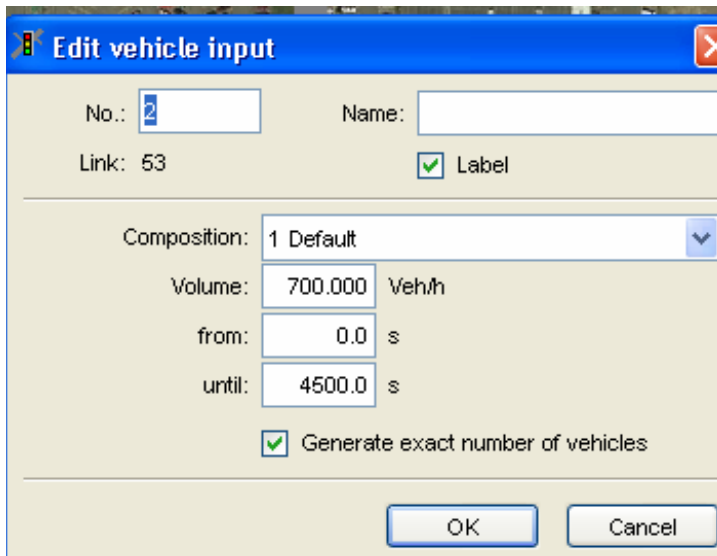

Figure 5. The “Edit vehicle input” window.
- Click at the “Edit” button so that the “Edit vehicle input” window appears (see Figure 5).